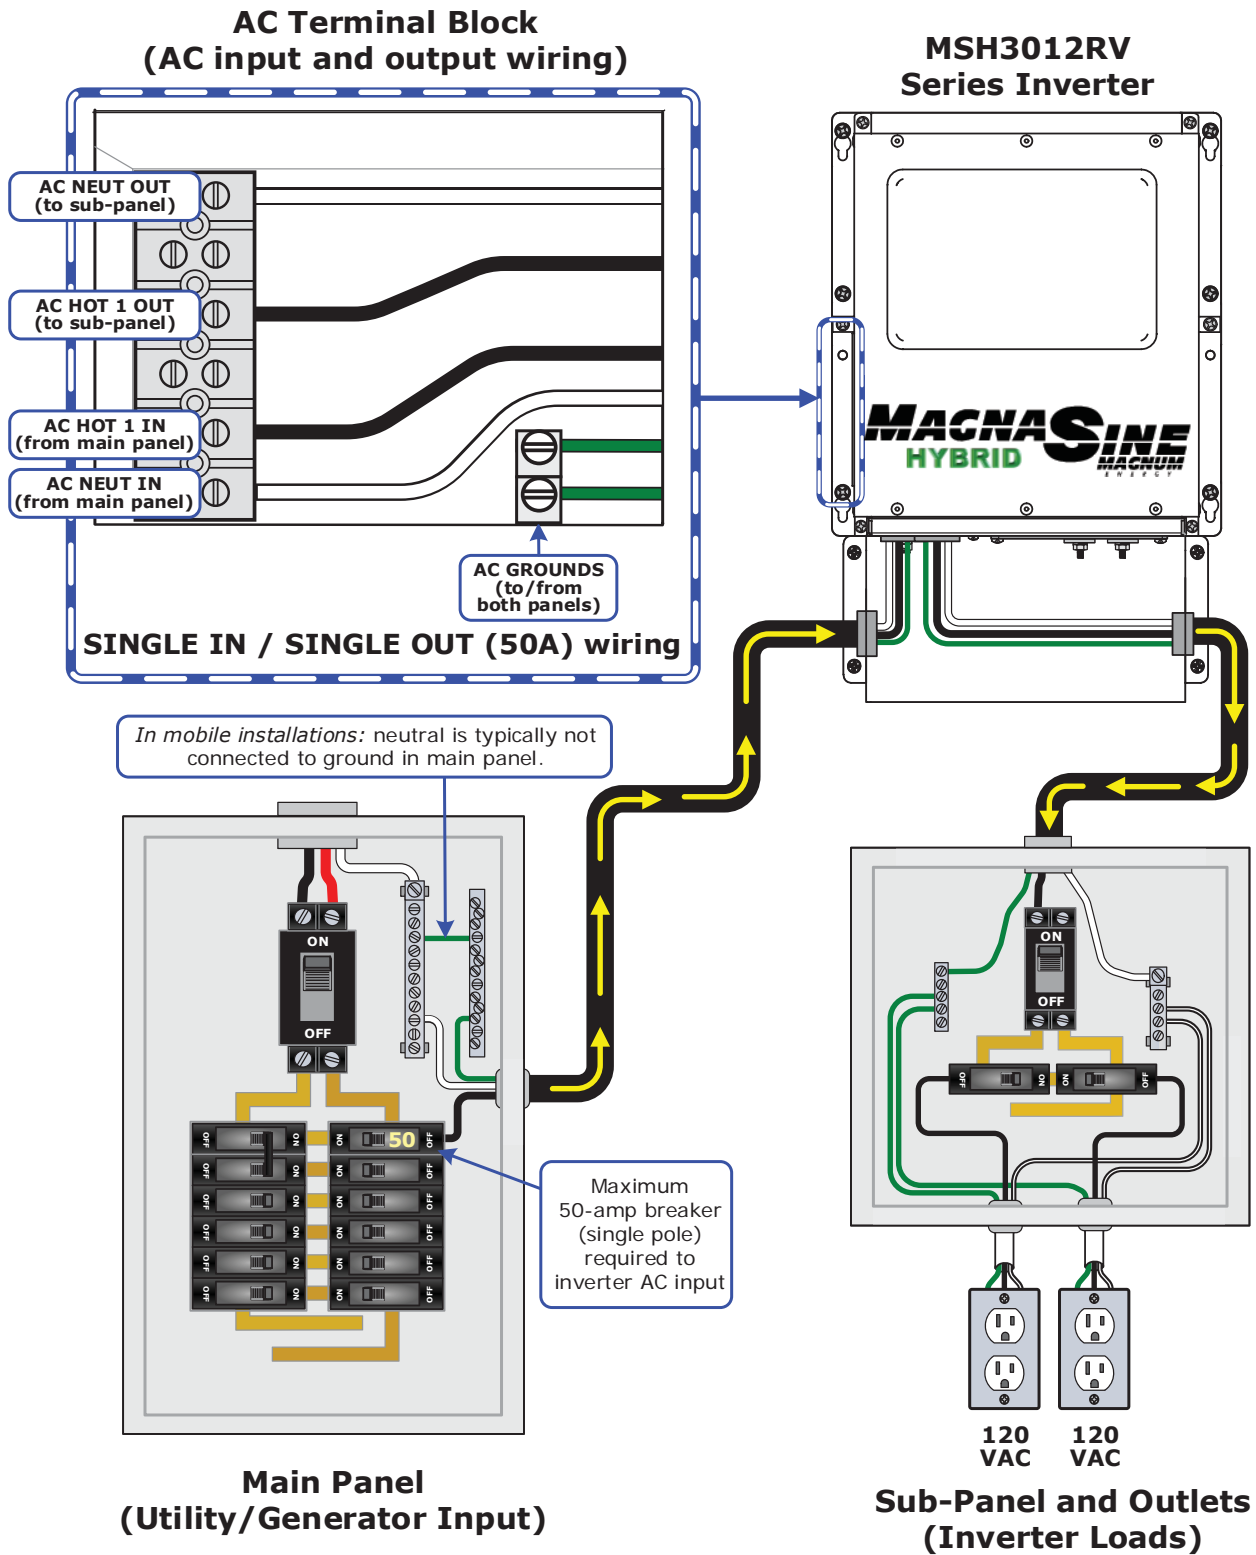

Figure 2-9, AC Wiring for Single In – Single Out Configurations
1. Route the wires (HOT, NEUTRAL, and GROUND) from the AC electrical main panel through one of the strain relief clamps on the inverter (Figure 1-2, Item 9). Tighten the strain relief clamp securely on the wires. Always leave a little extra slack in the wiring. Refer to Figure 2-9 for this procedure.
3. *Optional:* If wiring as Dual In (DI), connect another HOT wire (red) from the main panel's dedicated breaker to the inverter's HOT 2 IN terminal. Tighten the HOT 2 IN terminal to 16 in-lbf (1.8 N-m).
The following table provides the different wiring configurations for installing and connecting the AC conductors to and from the inverter (refer to Figures 2-9 to 2-11 for installation drawings showing these configurations).